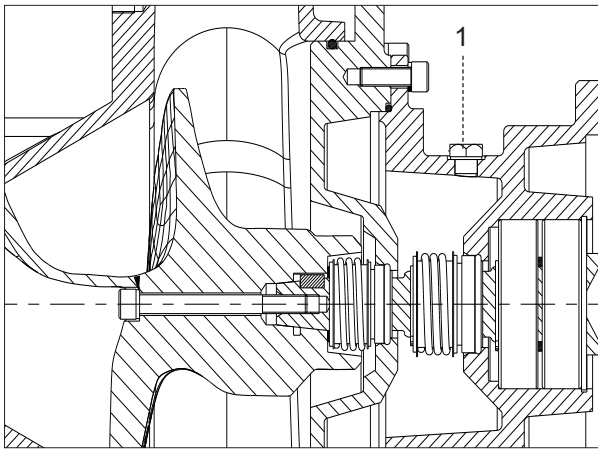

Figure 6 Checking the Lubricant Level
1. Remove transit filler plug and fit breather plug (→ Figure 6, item 1).